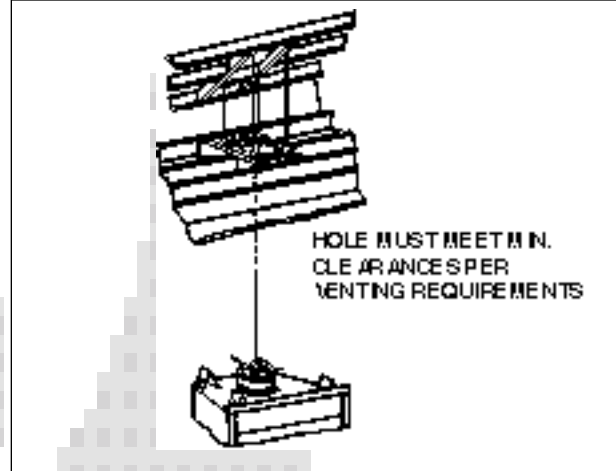

Figure 6a - Roof Exiting
f. Marking the Exit Point in the Roof. Locate the point where the Venting will exit the roof by plumbing down to the center of the Vent System. Drive a nail up through the roof to mark the center. See Figure 6a.